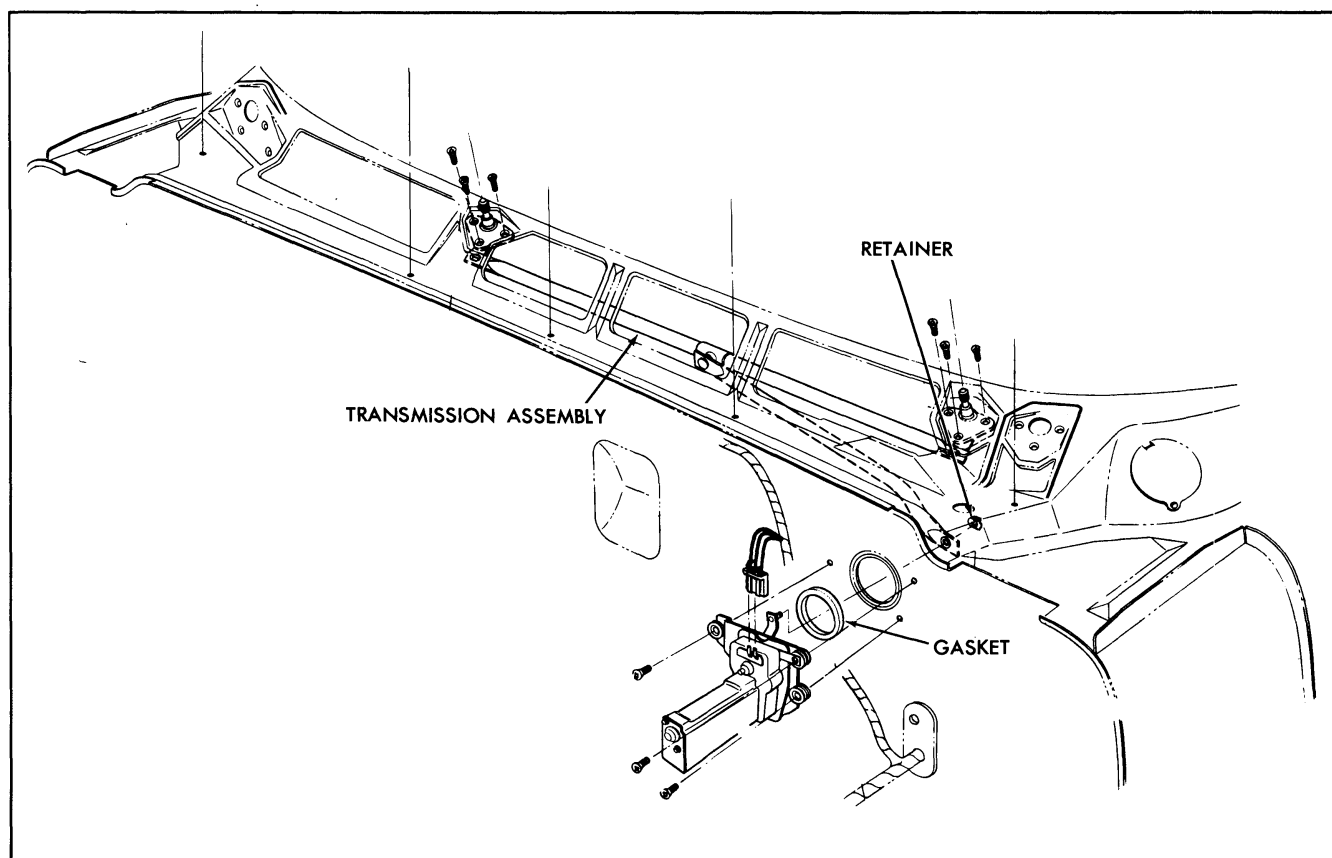

Fig. 11-79 Windshield Wiper Transmission
WIPER TRANSMISSIONS AND LINKAGE—REPLACE (FIG. 11-79)
1. Make sure gasket is on motor (Fig. 11-79).